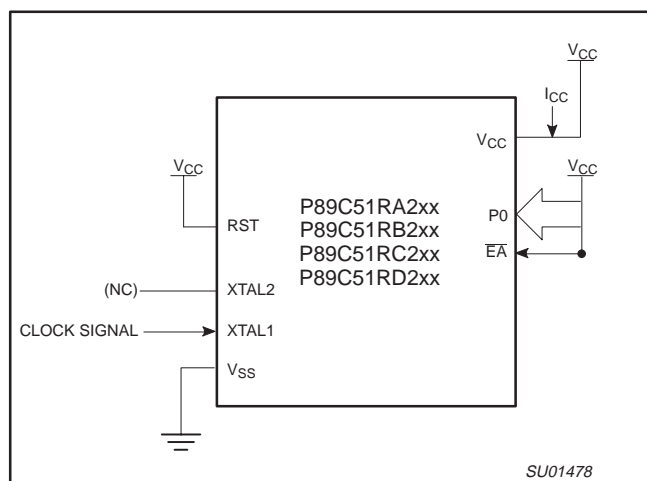

Figure 52. I_{CC} Test Condition, Active Mode, $T_{amb} = 25\text{ }^{\circ}\text{C}$.
- See Figures 52 through 55 for I_{CC} test conditions and Figure 49 for I_{CC} vs Freq.